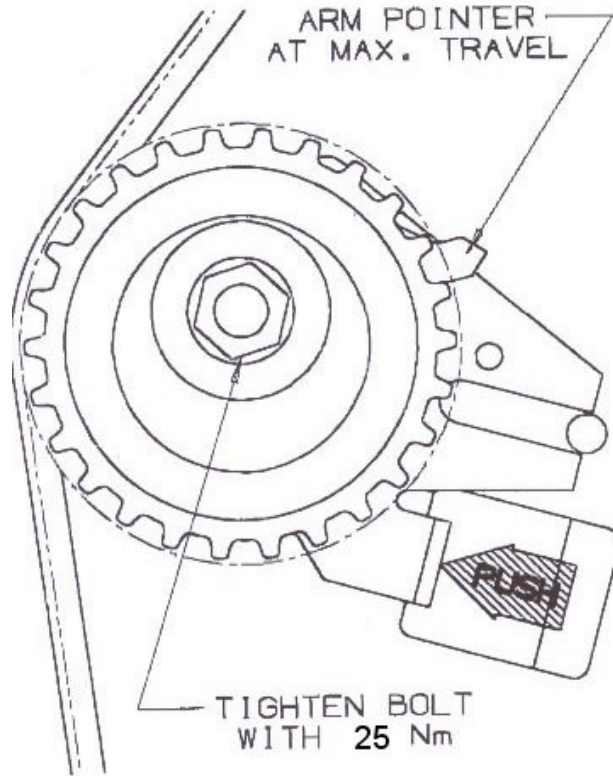

Figure 3: Proper initial setup of tensioner installed at room temperature (20°C)
6. Push the tensioner into the belt with the installation tool. The tensioner assembly will move against the belt and the Arm will eventually start to move COUNTERCLOCKWISE. Continue pushing the tensioner until its maximum travel position (See Figure 3).
8. Rotate the crankshaft two (2) complete revolutions manually for proper seating of the belt until the crankshaft is repositioned at the TDC position.